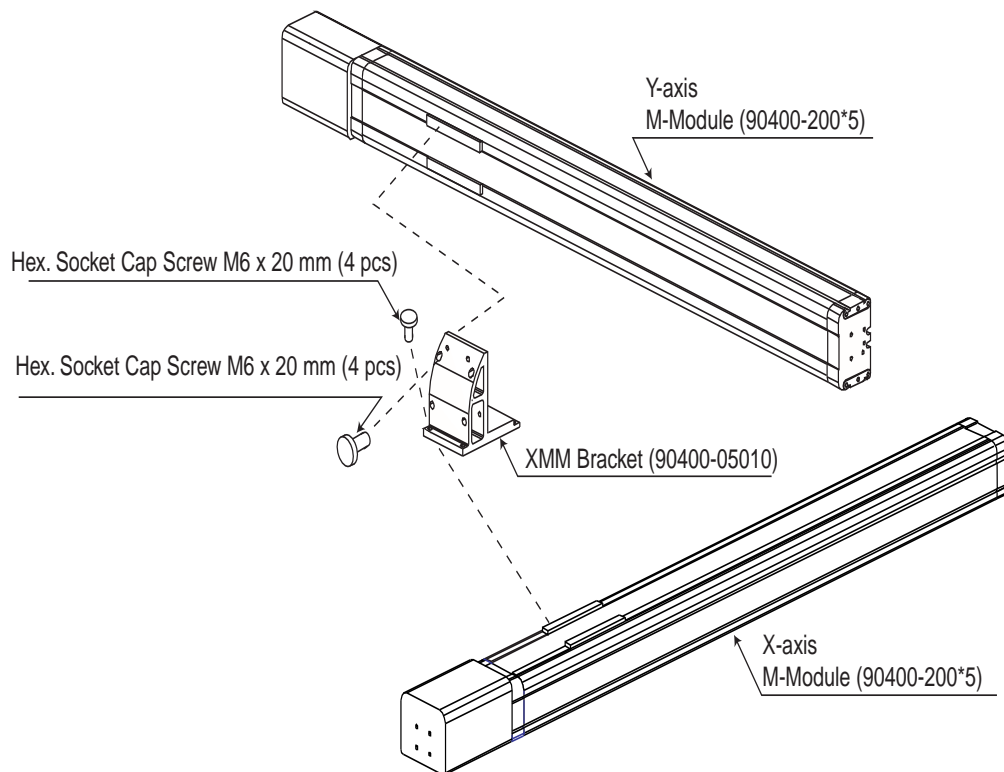

Figure 4-59. X-3 Type Mechanical Assembly
4. Mate the Y-axis to combining bracket by aligning the motor-side pin holes on the Y-axis module to the pins on the side of the bracket (these holes are on the side opposite the sliders). Carefully mate the pins and pin holes to avoid damaging the pins. Install the mounting bolts (see Figure 4-59).